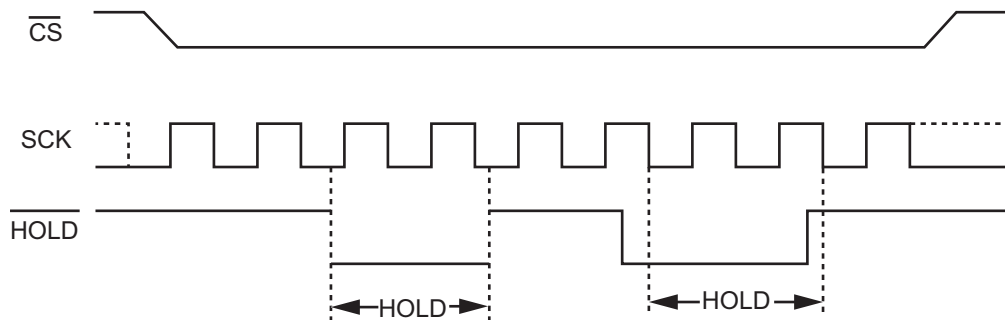

Figure 4. Hold Condition Activation
When $QE=0$, $HOLD/RST=0$, the $\overline{HOLD}$ signal is used to pause any serial communications with the device without resetting the clocking sequence, but does not stop the in-progress operation of write status register, programming, or erasing. During the Hold condition, the Serial Data Output (SO) is high impedance, and Serial Data Input (SI) and SCK are don't care. To enter the Hold condition, the device must be selected, with $\overline{CS}$ low. Normally, the device is kept selected for the whole duration of the Hold condition. Deselecting the device while it is in the Hold condition, has the effect of resetting the state of the device, and this mechanism can be used if it is required to reset any processes that had been in progress. The Hold condition starts when the $\overline{HOLD}$ signal is driven low at the same time as SCK already being low (Figure 4). The Hold condition ends when the $\overline{HOLD}$ signal is driven high at the same time as Serial Clock (SCK) is low. Figure 4 also shows what happens if the rising and falling edges are not timed to coincide with SCK being low.